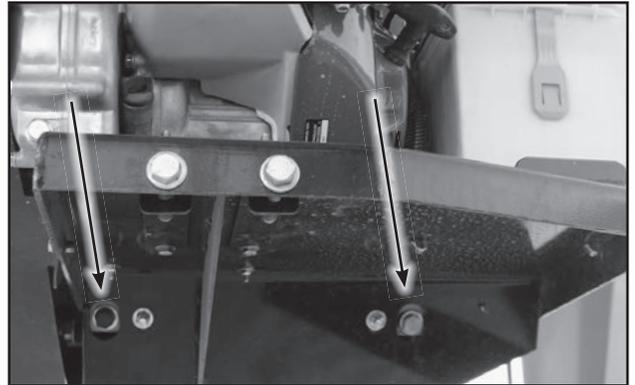

Fig 68 - Tension Bolts, Below Engine
5. Calculate the tension (See Figure 68):